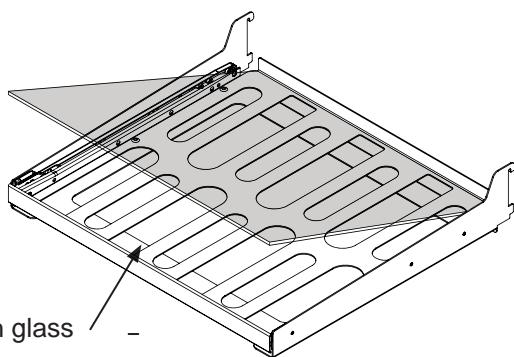

Figure 15
(1) wine cutout and flat glass cantilever shelf. (See Figure 15).
(1) frame and flat glass crisper cover. (See Figure 15).
(1) half width flat glass cantilever shelf. (See Figure 15).